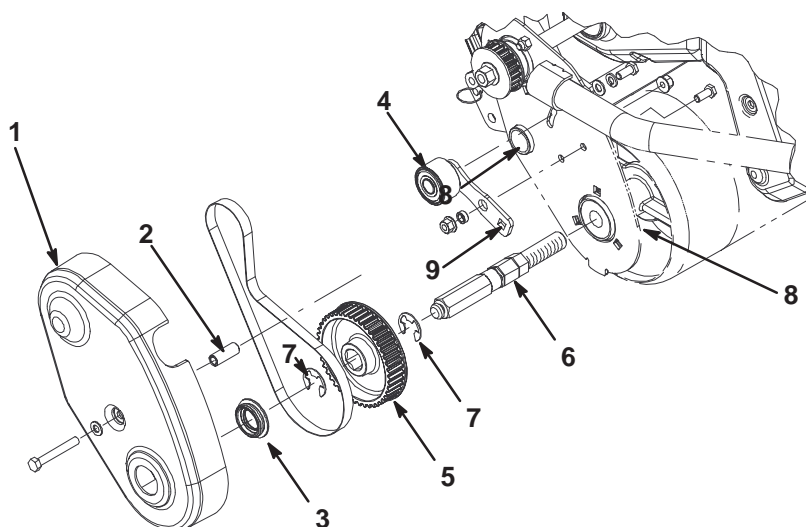

Figure 1
1. Remove capscrew, washer and flange nut securing traction cover and spacer to right side plate of mower (Fig. 1). Remove cover.
2. Carefully remove seal from cover (Fig. 1).
3. Loosen and remove the capscrew, lock washer and flat washer (Fig. 1) securing the idler bracket to the side plate (slotted hole). This will relieve belt tension and allow removal of belt.
4. Remove capscrew, spacer and flange nut securing idler assembly to side plate (Fig. 1).
5. Remove retaining rings and drum pulley from hex shaft (Fig. 1).
6. Insert bar stock or other suitable tool through spokes of drum to keep it from turning. Unscrew hex shaft (Right side- right hand thread, left side- left hand thread) from drum (Fig. 1). Do not misplace spacer between sideplate bearing and drum.
12. Using a 3/8 in. drive torque wrench, rotate the idler bracket with 35-40 in.-lb. of torque to set belt tension (Fig. 1). Tighten the idler bracket mounting capscrew. **Do not over-tension belt.**